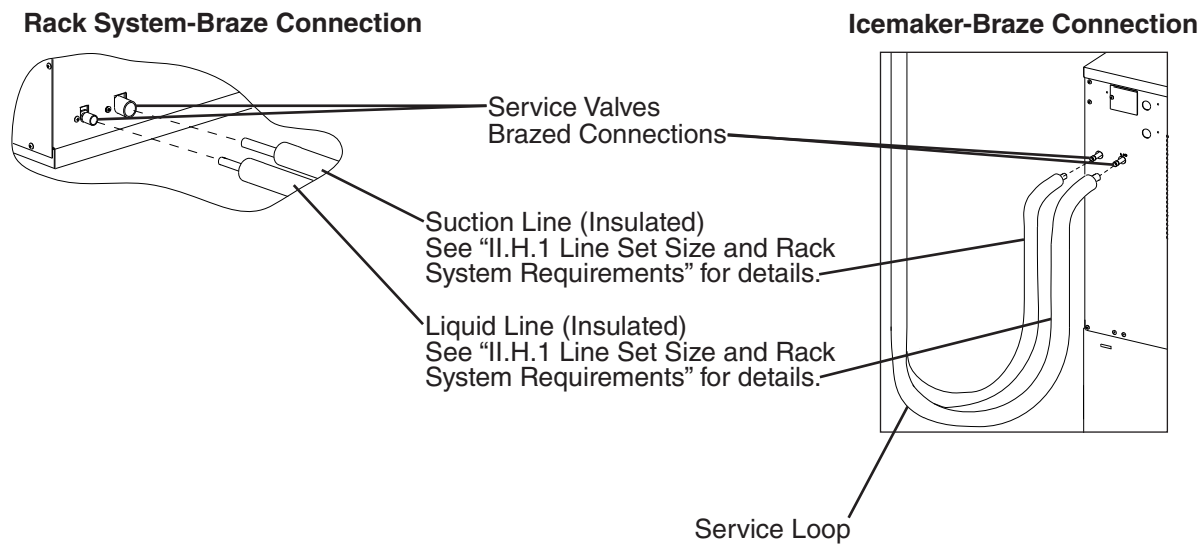

Fig. 14
- 1) Route the proper size copper tube liquid line and copper tube suction line (see "II.H.1 Line Set Size and Rack System Requirements" for details) from the rack system to the icemaker. Leave a service loop behind the icemaker to allow the icemaker to be pulled out for service. See Fig. 14. Note: The service loop is not considered an oil trap.